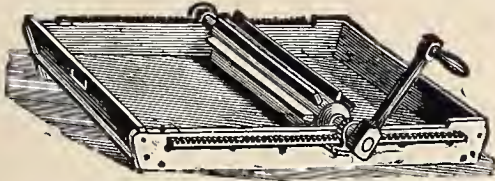

Fig. B 458.—Philadelphia Butter-Worker.
*The Philadelphia Butter-Worker*, illustrated at *Fig. B 458*, is one that has given general satisfaction, being efficient and simple and convenient to handle. The ribbed roller, turned by a crank, is moved from end to end by means of the gears outside the tray. The iron parts are all galvanized to prevent rust. Four sizes are made, as follows: